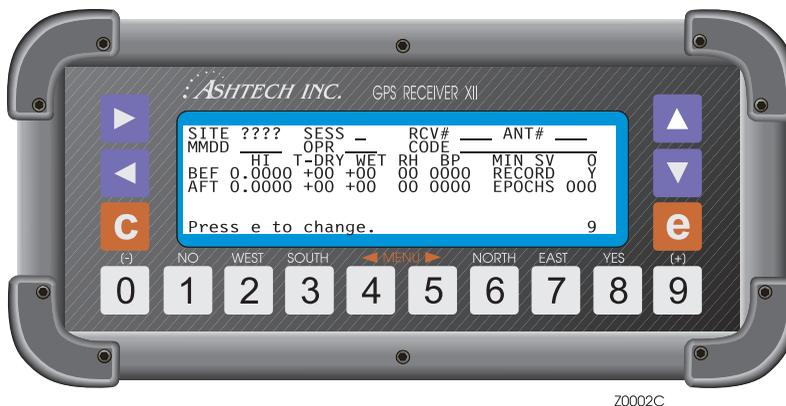

Figure 4.2. Screen 9 - Site and Session Control
- Go to Screen 9, Site and Session Control (Figure 4.2) by pressing **9**. Like Screen 4, you do not have to alter information to successfully conduct a static survey; however, site ID and antenna height information should be entered to assist in automatic processing.